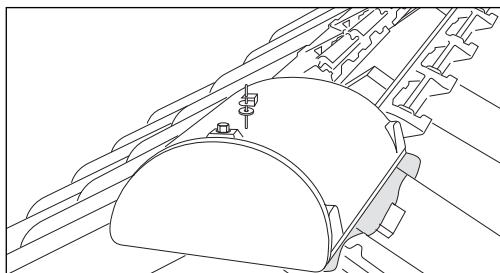

Fig 43 - Passing ridge wire through ridge unit
- 4 Pull the wire tight so that the loop closes tightly around the batten, and feed the end up through the hole in the ridge tile (Fig 43).